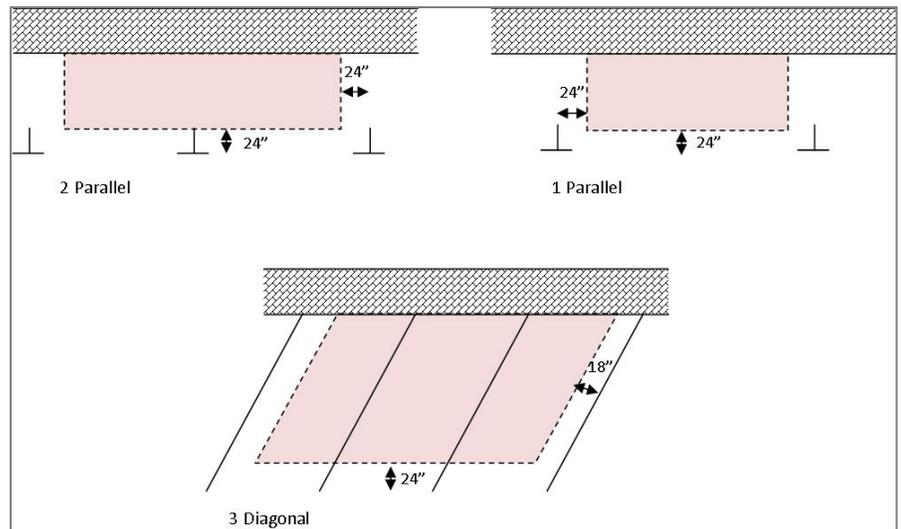

Figure 2. Parking space use – not to scale
- For parklets proposed on parallel parking spaces, a maximum of two (2) parking spaces shall be used. For proposals using angled parking spaces, a maximum of three (3) parking spaces shall be used. For proposals using perpendicular parking spaces, a maximum of three (3) parking spaces shall be used. Refer to Figure 2 for details.